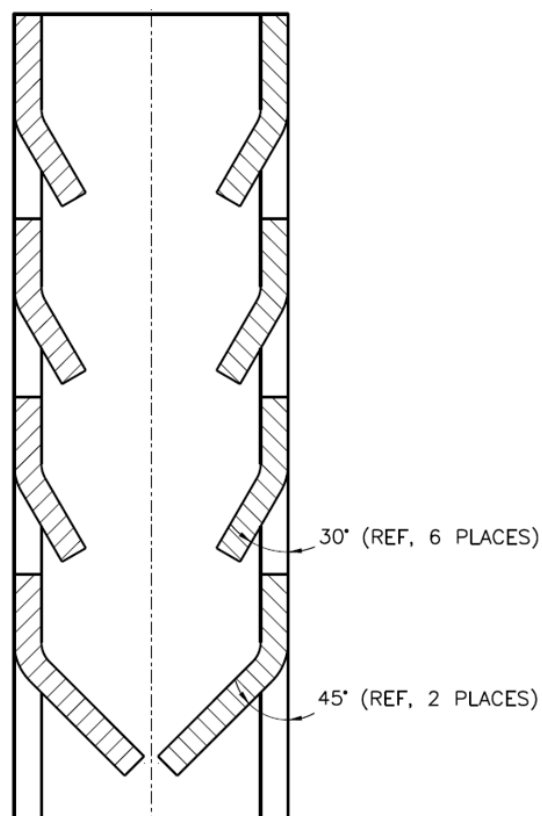

Figure 2: Section View Showing Tab Angles
2.1.1. The 6 small tabs are designed to be 30 degrees and the bottom tabs are placed at 45 degrees. See Figure 2 below.